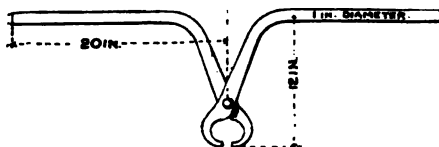

FIG. 13.—RAIL TONGS.—Weight 13 lbs.
**Rail Tongs** (Fig. 13) are made of two pieces of 1 in. round iron 2 ft. 6 in long with a small piece welded on the end to make the jaw. Where they are hinged they are drawn out to 1 1-2 in.  $\times$  1-2 in. and held by a 1-2 in. bolt. Jaws 1 1-2 in  $\times$  3-4 in. thick. Weight 13 lbs. Six to seven can be made in a day.